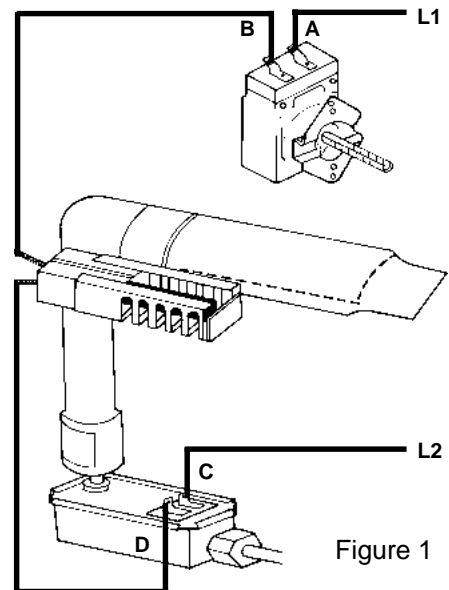

Figure 1
- A. Disconnect oven power and remove wires at "B" and "C" (Figure 1).